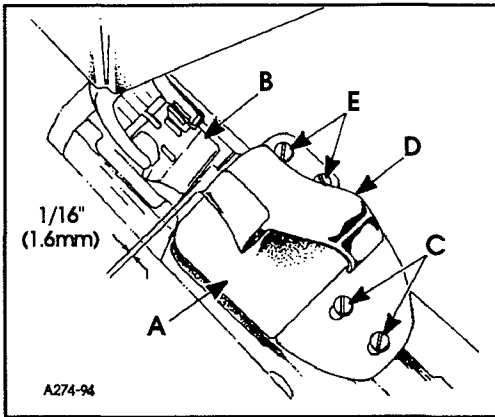

FIG. 21
Slide folder (A, Fig. 21) on arm. The folder should be as close to the front of presser foot (B) as possible, making sure to avoid the presser foot contacting the folder when sewing across seams. Margins should be approximately 1/16" (1.6mm). If adjustment is necessary loosen screws (C) to move entire folder left to right or front to back as required. If just adjustment of upper scroll (D) is needed loosen screws (E) and position scroll to obtain proper seam margin.